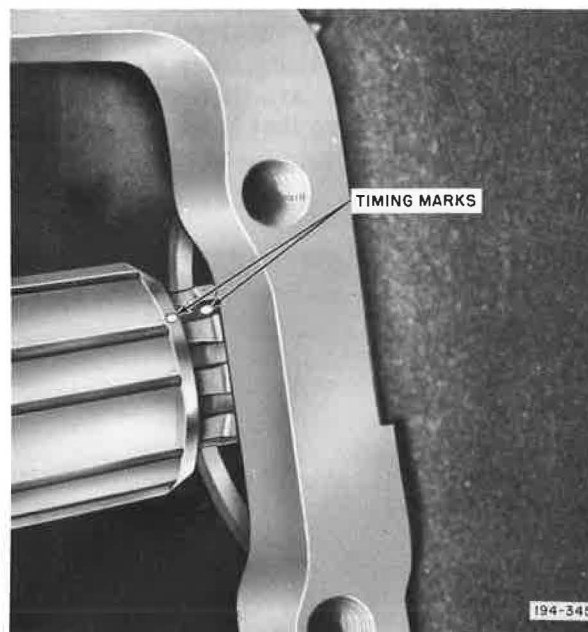

Figure 5-5 . Countershaft Timing Marks
6. Slide right rear countershaft rearward slightly and OBSERVE TIMING "O" MARKS on front and rear countershaft splines. See Figure 5-5 . If timing "O" marks are not visible, mark each countershaft so that it will be properly timed at reassembly.